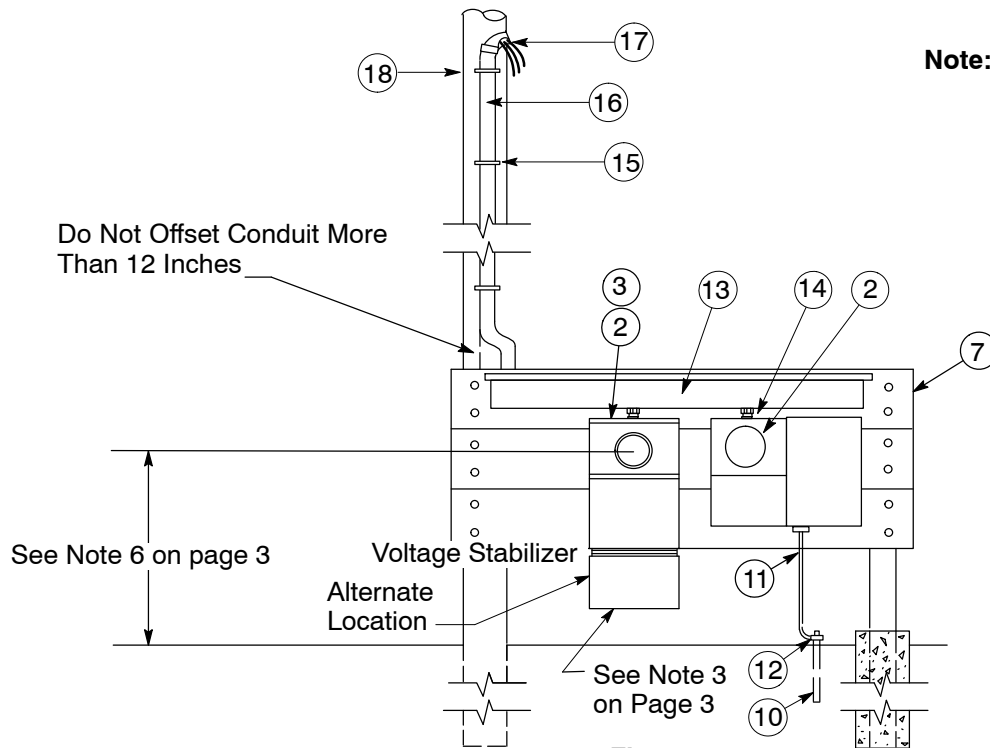
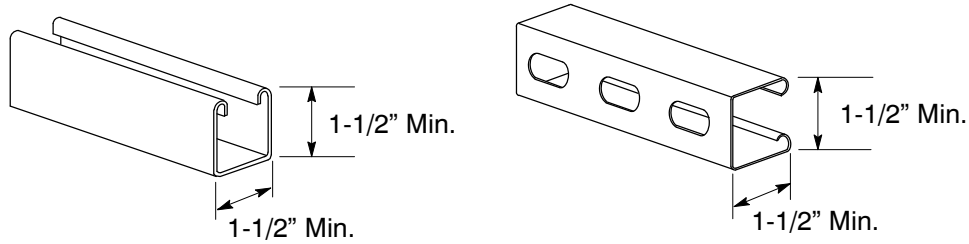

Figure 8
Figure 10
- (1) Structure: All structures must be a minimum length of 48 inches. For structures up to 72 inches long, the minimum combined height of the boards, panel, or struts must be 36 inches. For structures up to 96 inches long, the minimum combined height of the boards, panel, or struts must be 42 inches. For structures with lengths greater than 96 inches, use additional posts. The top of the structure must not exceed 84 inches high from the ground. There must be a minimum of 6 inches of clearance between the ground and all equipment, panels, boards, or struts.
- (2) Boards: Place side by side.
- (3) Panel: One solid sheet.
- (4) Unistrut: At a minimum, two struts are needed to support each piece of service and metering equipment. It is recommended that one strut be attached towards the top and one strut be attached towards the bottom of the equipment. Add struts for additional equipment with different length dimensions. Use struts with or without boards or panels.
- (a) Strut channel dimensions must be a minimum 1-1/2 inch x 1-1/2 inch. See Figure 10 on Page 8.
- (5) Posts: Use a minimum of two posts to support panel-type construction. Add more posts if the construction exceeds the structural dimensions listed in Note 1B(1) on Page 1. If applicable, a PG&E-approved, customer-owned pole can be used as one of the posts. The customer-owned pole must be installed in accordance with Document 025055 and the panel board must be attached to the poles as shown in Figures 8 on Page 5 and Figure 10 on Page 8.